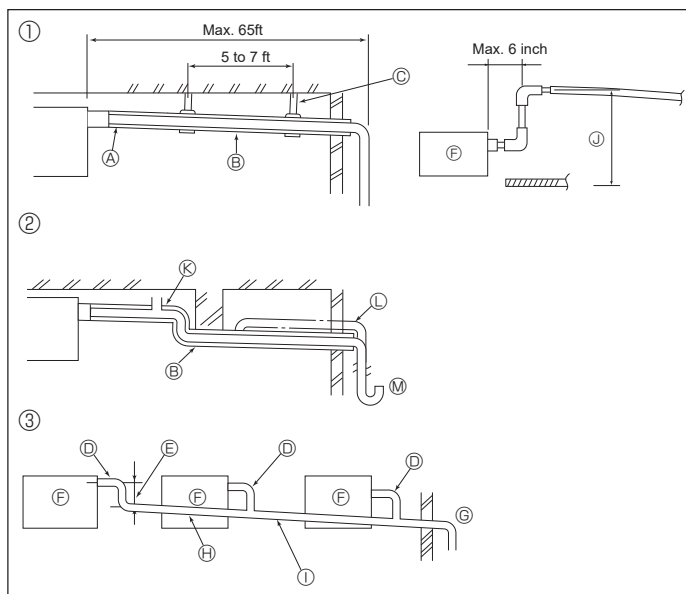

Fig. 5-1
5.1. Drainage piping work (Fig. 5-1)
- ① Correct piping
- ② Wrong piping
- Do not place a raised pipe on the piping. ①